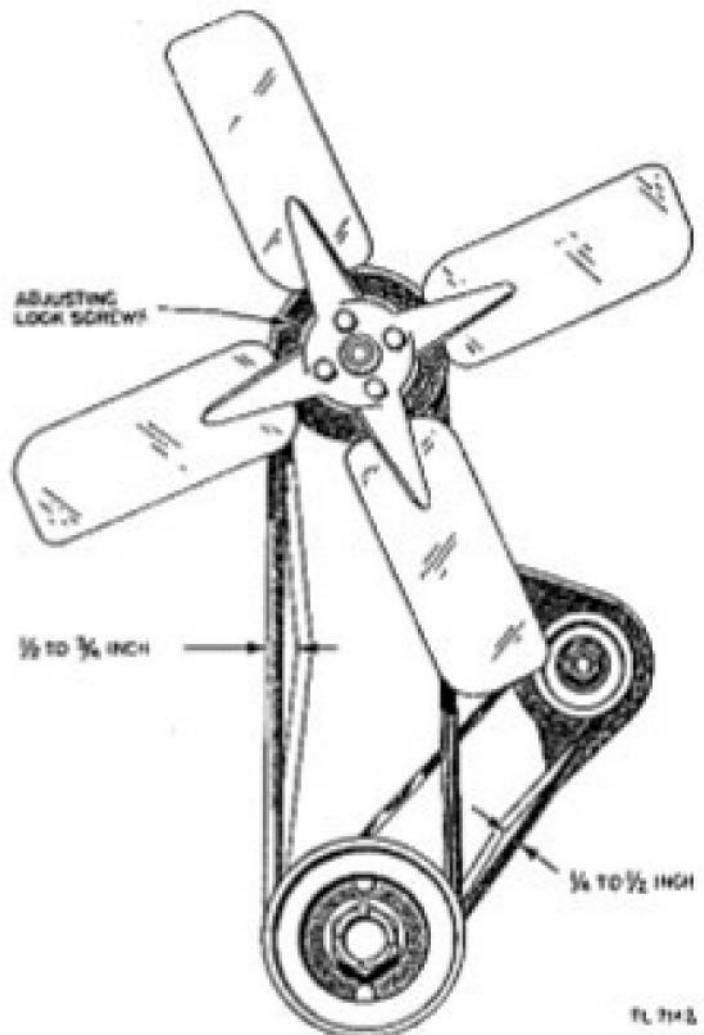

Figure 25. Correct V-belt tension.
(1) Drain the cooling system by opening the drain cocks in the lower radiator connection, in the manifold, and in the cylinder block (drain cocks located in the cylinder block beneath the carburetor). Allow the system to drain, then close the cocks.
(2) Fill the cooling system with a solution of 2 1/2 pounds of ordinary washing soda mixed with 9 gallons (U. S. measure) of water (cooling system capacity).
(3) Leave the radiator filler cap off and run the engine until the water is hot; then drain and flush the system with clean water.
(4) Refill with clean water.
c. FAN BELT Adjustment. Adjust the tension of the fan belt by changing the width of the groove in the fan pulley. (See fig. 25.) To do this, loosen the lock screws and move the pulley flanges together